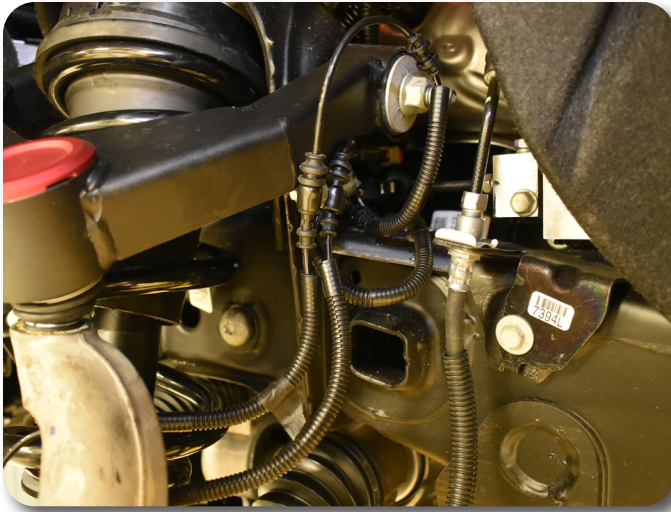

Figure 46
70. Attach the ABS wire and brake sensor wire to the upper control arm on the driver and passenger sides with the provided wire clamps and factory hardware using thread locker Fig. 46. Torque to 92 in-lbs.